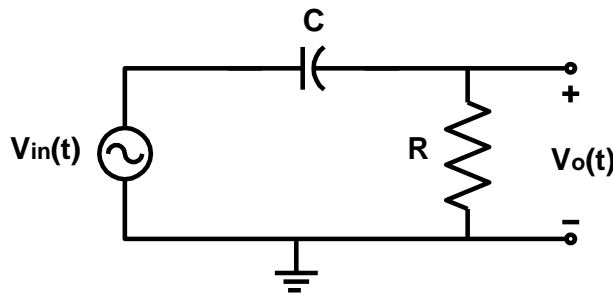

Fig. 2A. First order high pass filter (integrator)
1. For the circuit shown in Fig. 2A, derive the transfer function for v_o/v_{in} in terms of R and C , and find the expressions for the magnitude and phase responses. Express your results in the form
2. Build the RC high pass circuit shown in Fig. 2A using the R and C values designed in the pre-laboratory exercise. Obtain the frequency response of the filter using the bode analyzer SFP as shown in part C.